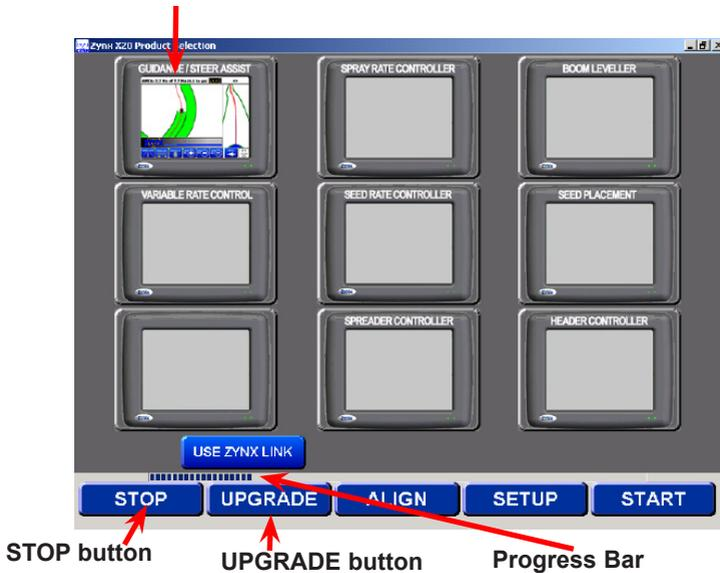

Figure 7-2. X20 Product Selection Screen
3. On the *X20 Product Selection* screen (Figure 7-2) press the **STOP** button, before the Progress Bar moves completely to the right (which takes about 4-5 seconds)
4. Select the **GUIDANCE/STEER ASSIST** screen (Figure 7-2) and ensure it is the only screen highlighted
5. Press the **UPGRADE** button (Figure 7-2).